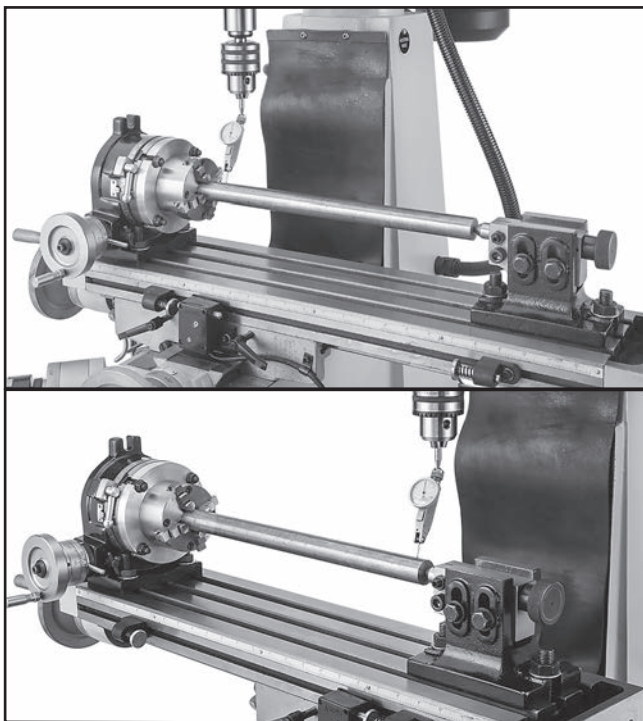

Figure 31. Determining offset of surface.
3. Mount center-drilled, parallel workpiece between chuck and tailstock (see **Figure 31**).
4. Mount a dial indicator in mill spindle and indicate off of a horizontal center line of workpiece near tailstock (see **Figure 31**).